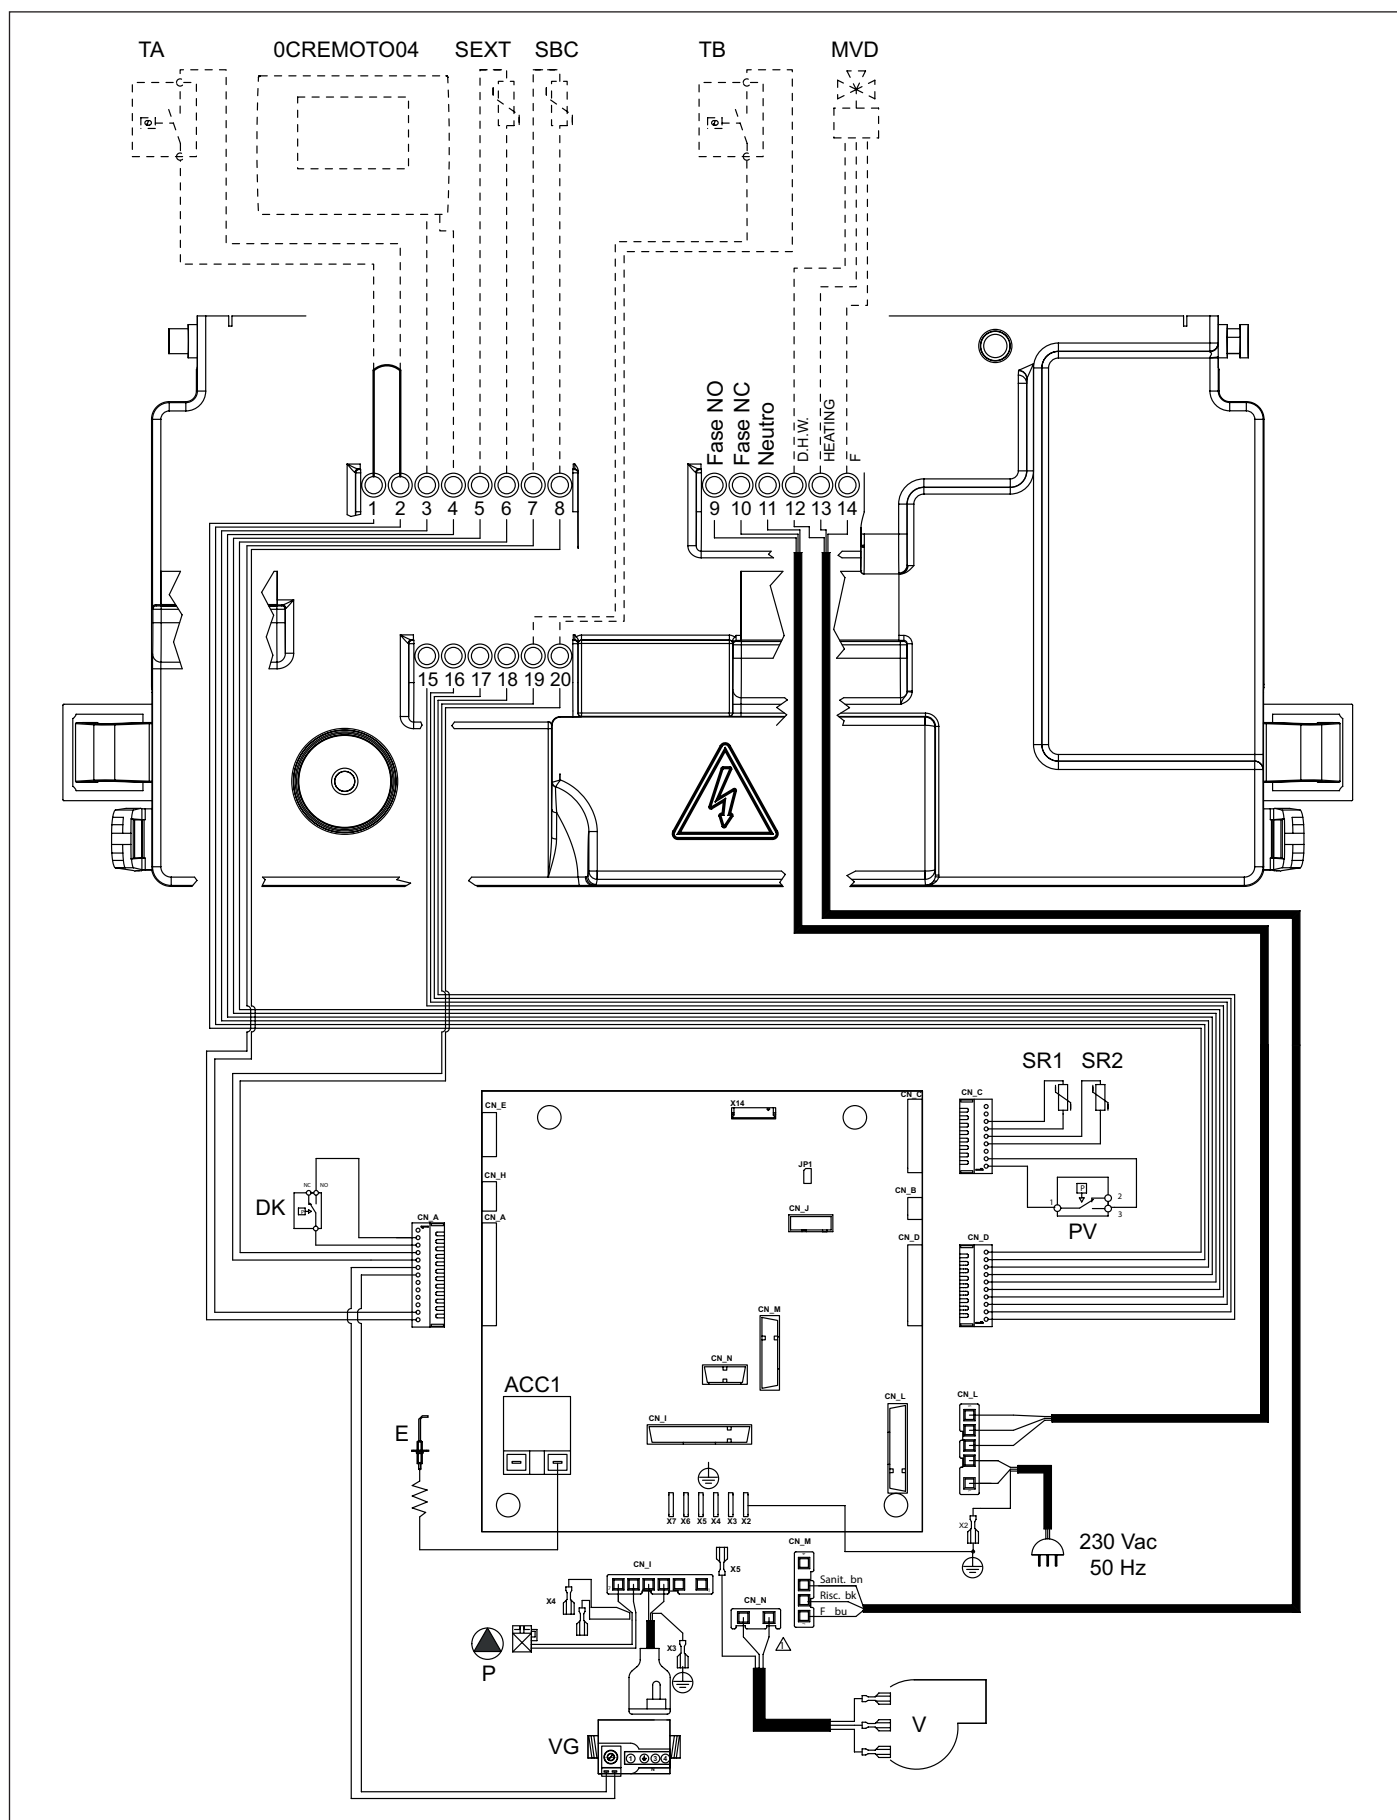
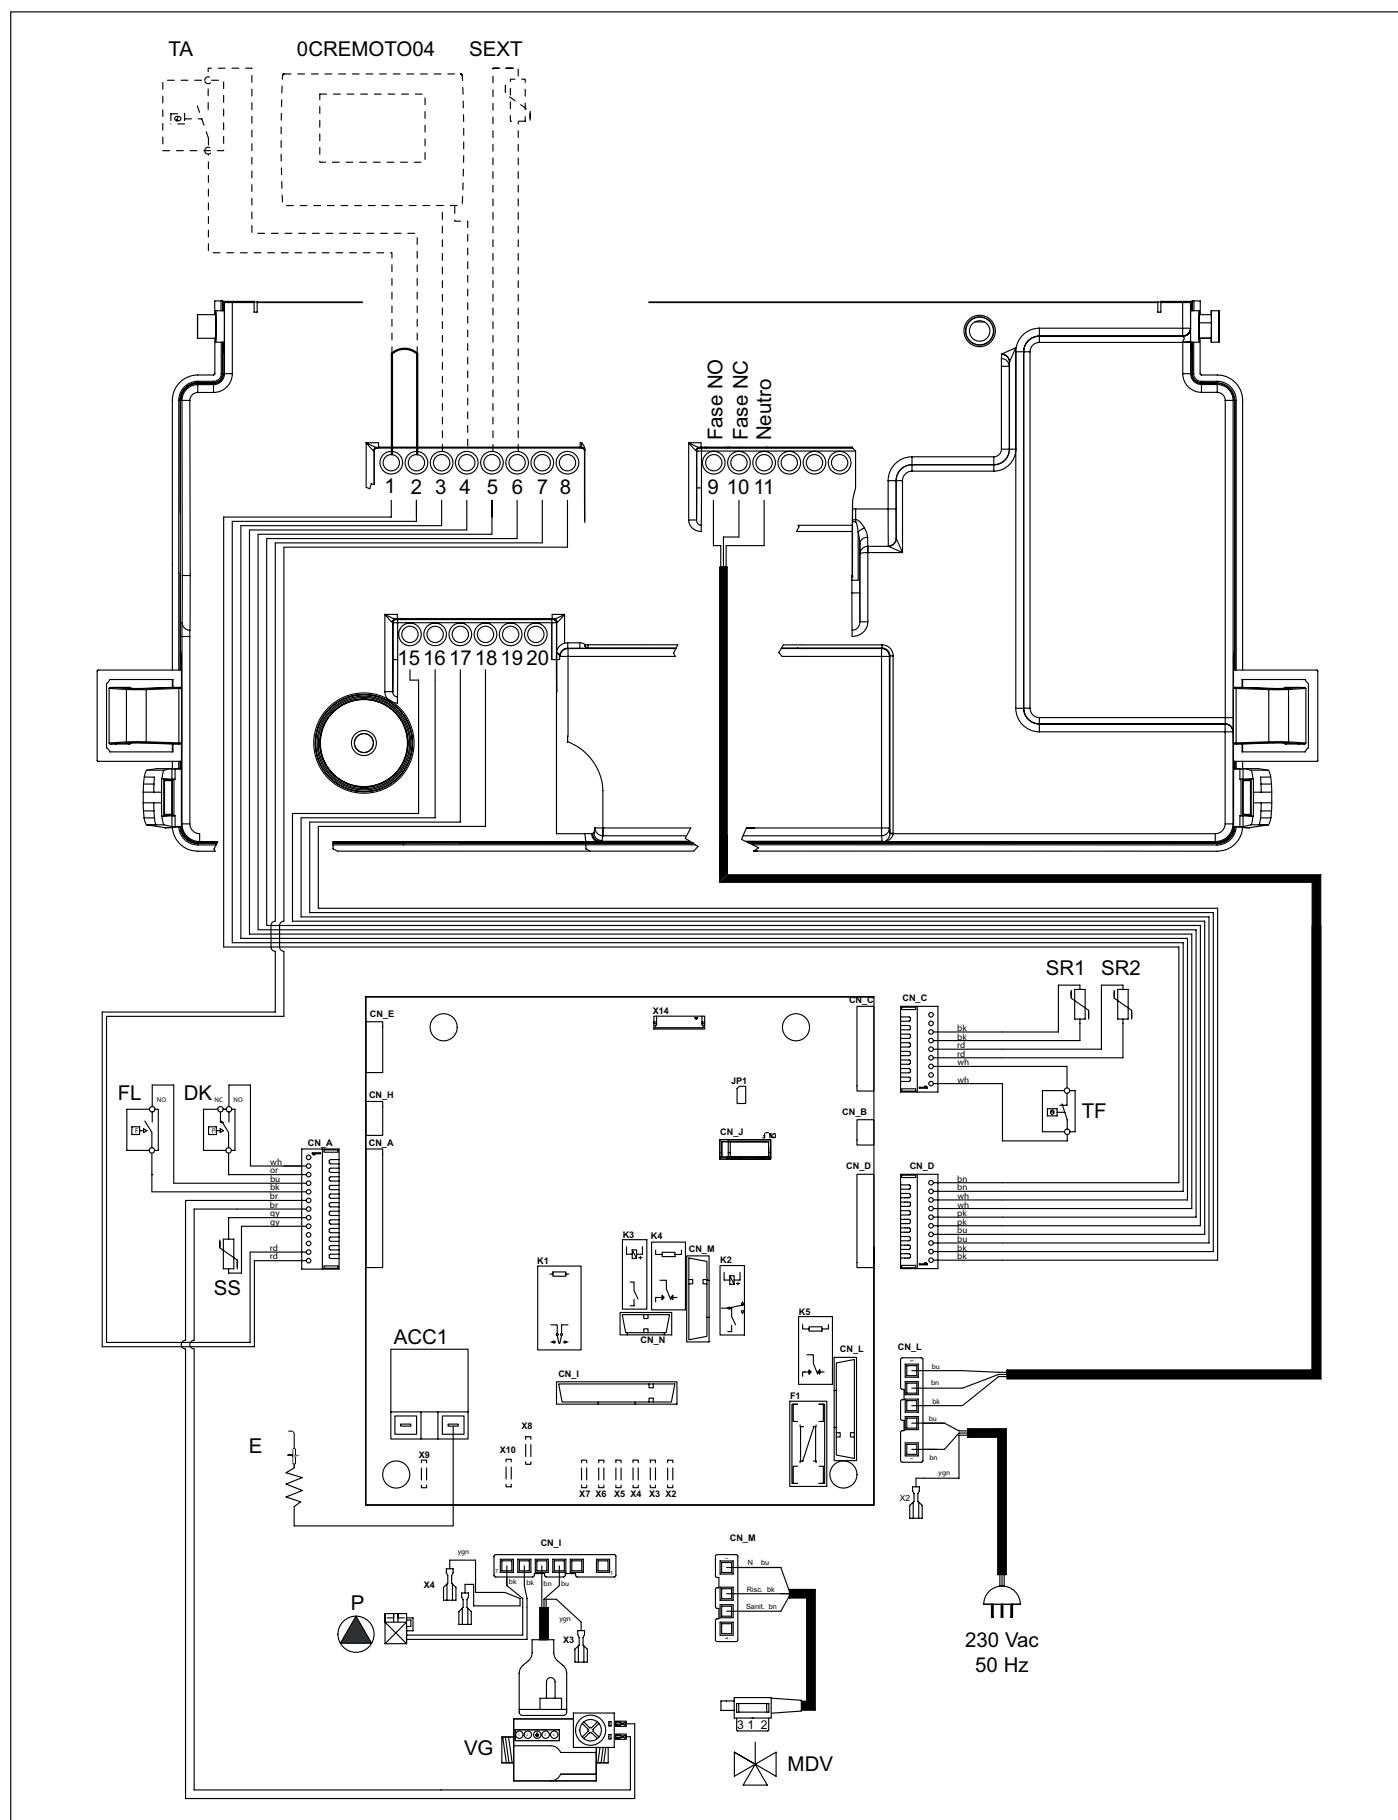
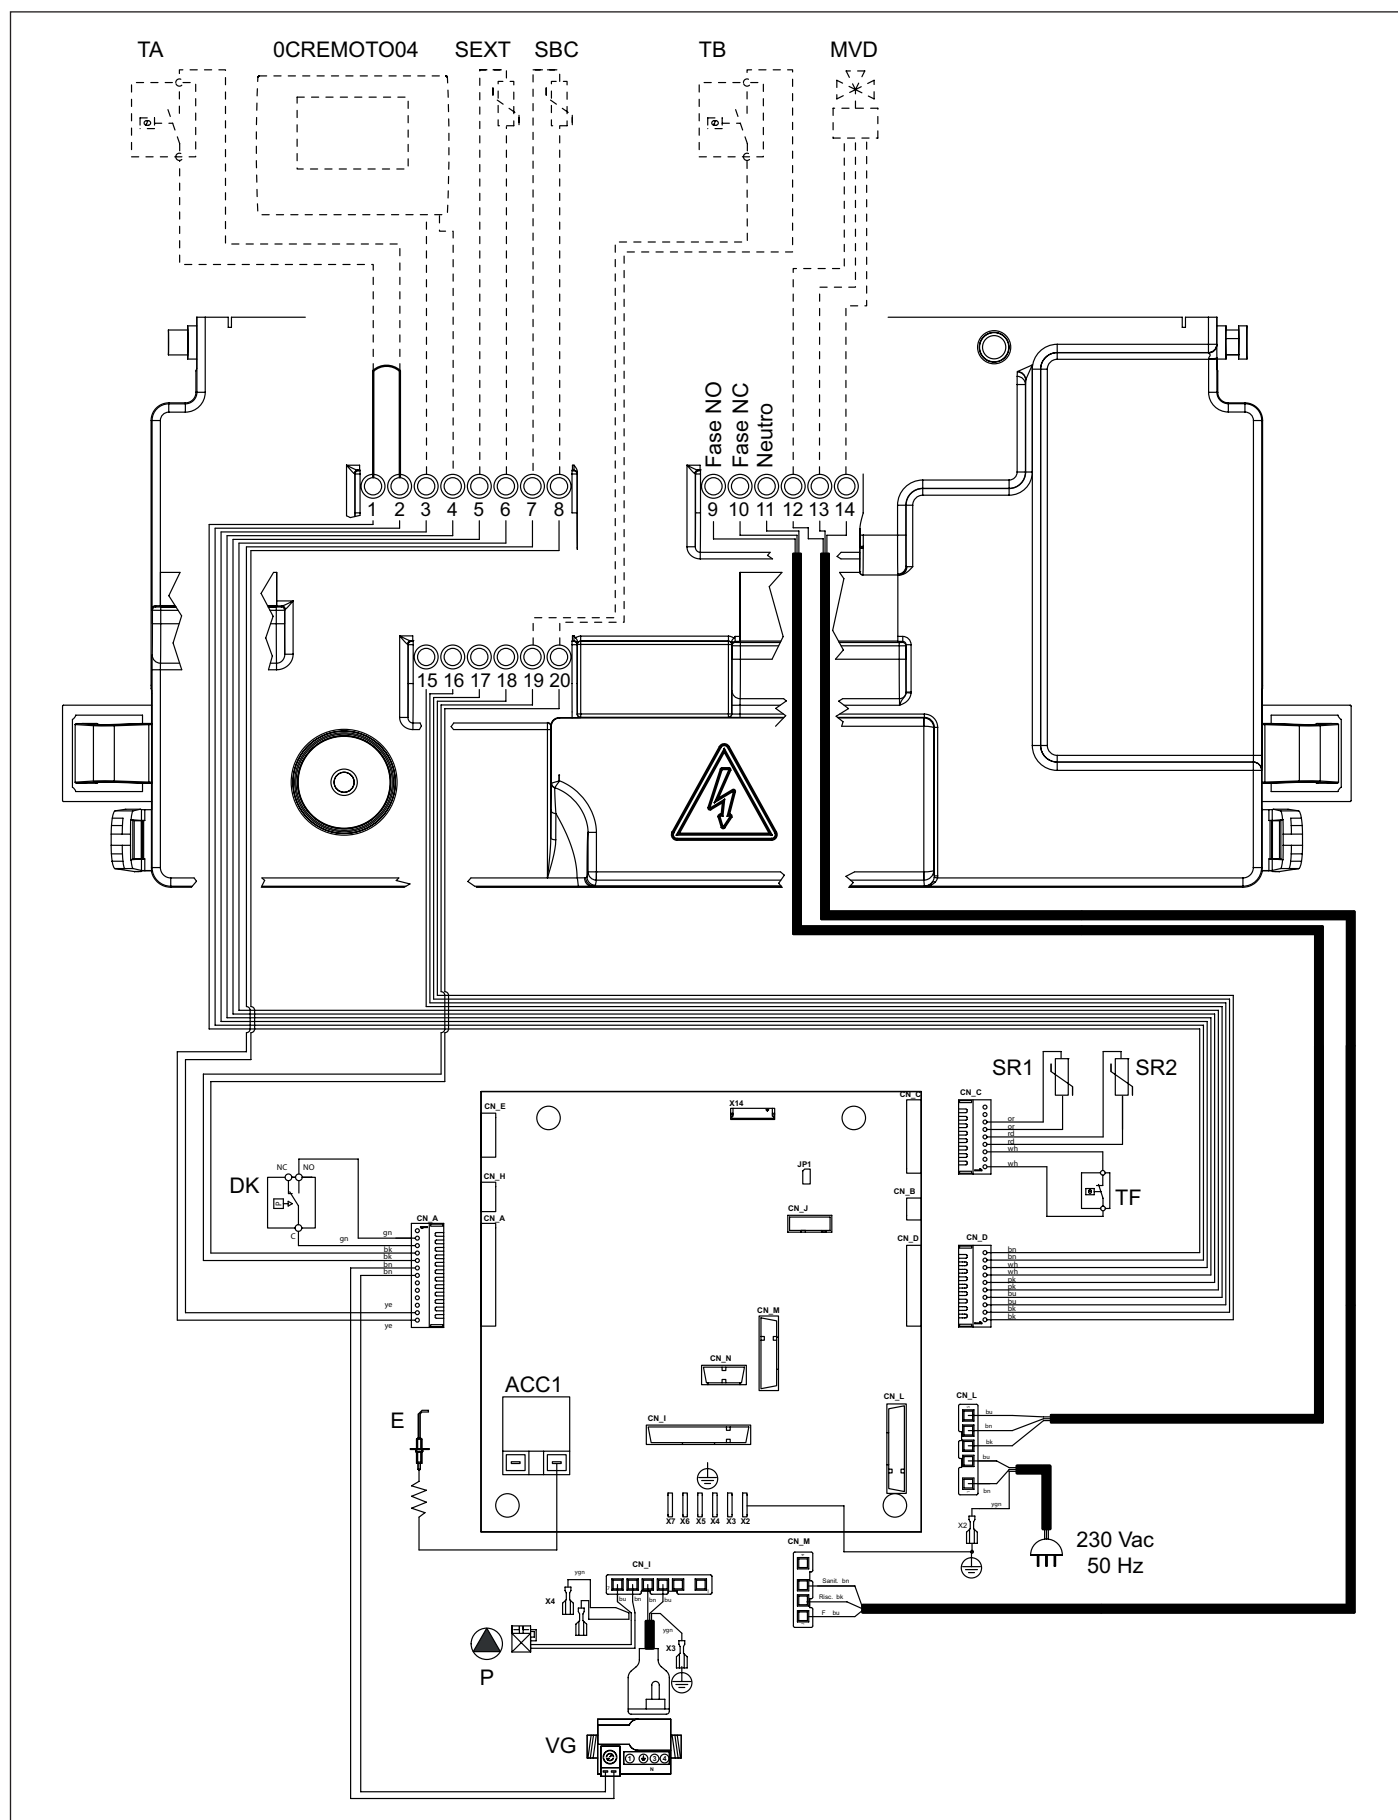

Fig. 23 Wiring diagram RTFS
Fig. 24 Wiring diagram CTN
Fig. 25 Wiring diagram RTN
- To adjust the pressure, hold the brass nut **B** in place using a 10mm spanner (fig. 23, fig. 24 or fig. 25) and turn the plastic screw **C** CLOCKWISE to increase the pressure, or ANTICLOCKWISE to reduce it;